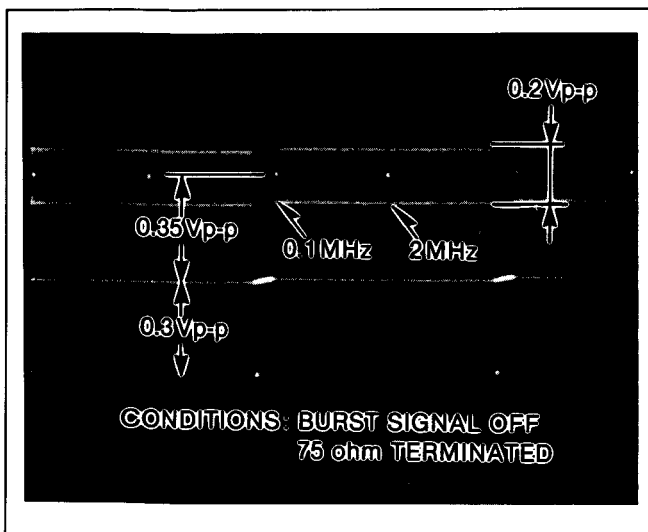

Fig. E14
- (1) Set the Video Sweep Signal as shown in Fig.E14.